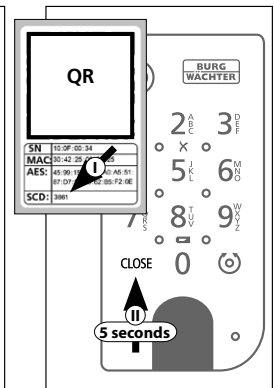

Fig. 24
⑪ Enter the safety code (SCD) supplied. The safety code can be found on the sticker (I) enclosed with the keypad (Fig. 24).